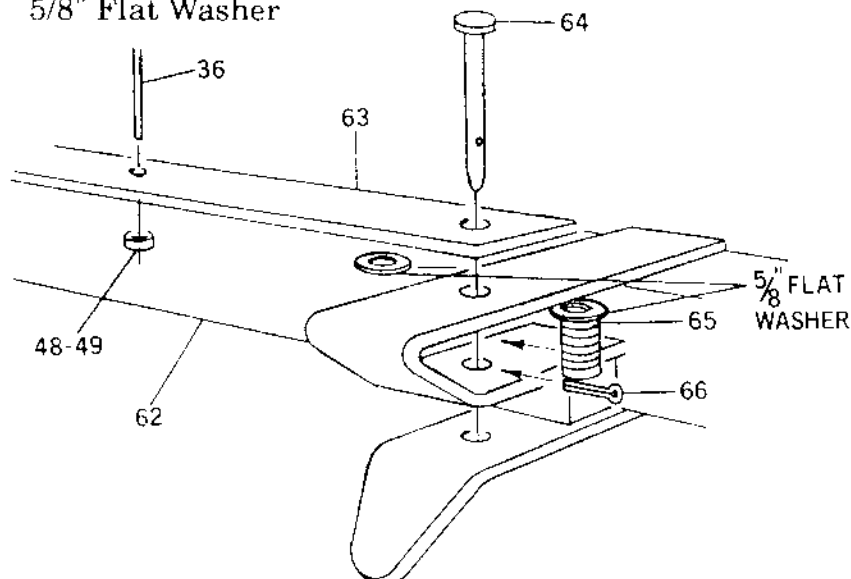

FIGURE 1
4. Assemble the PUSH BEAM ASSEMBLY (Ref. No.62, Fig. 1) as shown.
PUSH BEAM ASSEMBLY PARTS LIST (FIGURE 1)